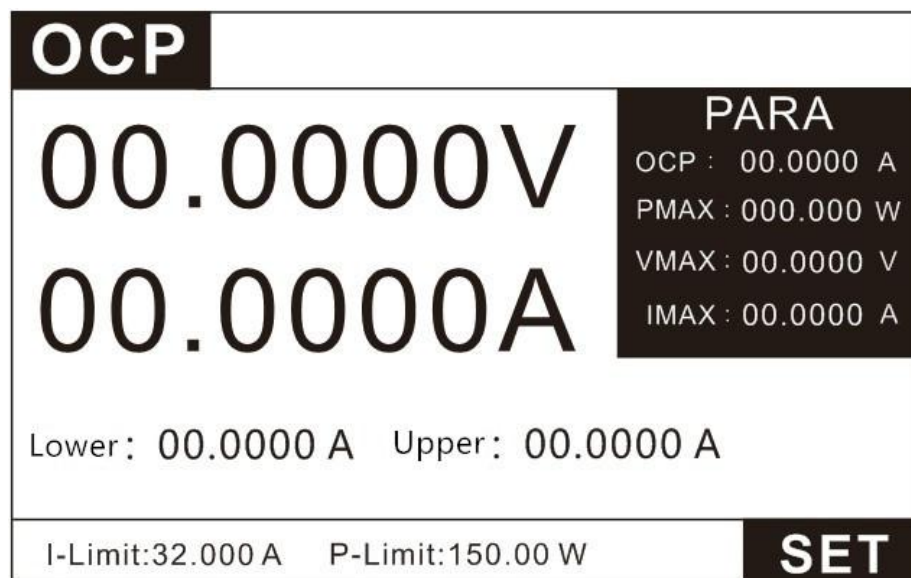

Figure 3.8 OCP test Page
2. In Figure 3.8, press the key **SET** to enter the setting interface, as shown in Figure